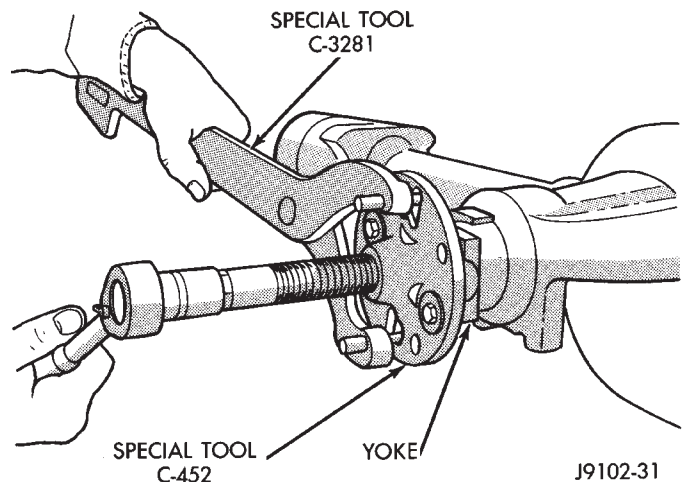

Fig. 11 Pinion Yoke Removal
(1) Raise and support the vehicle.
(2) Remove wheel and tire assemblies.
(3) Remove brake rotors and calipers. Refer to Group 5, Brakes, for proper procedures.
(4) Mark the propeller shaft and pinion yoke for installation reference.
(5) Remove the propeller shaft from the yoke.
(6) Rotate the pinion gear three or four times.
(7) Measure the amount of torque necessary to rotate the pinion gear with a (in. lbs.) dial-type torque wrench. Record the torque reading for installation reference.
(8) Using Holder 6958 to hold the pinion yoke, remove the pinion nut and washer.
(9) Use Remover C-452 and Wrench C-3281 to remove the pinion yoke (Fig. 11).
(10) Use a suitable pry tool or a slide hammer mounted screw, remove the pinion seal.
(11) Remove the front pinion bearing using a pair of suitable pick tools to pull the bearing straight off the pinion gear shaft. It may be necessary to lightly tap the end of the pinion gear with a rawhide or rubber mallet if the bearing becomes bound on the pinion shaft.
(12) Remove the collapsible spacer.
- (1) Raise and support the vehicle.
- (2) Remove wheel and tire assemblies.
- (3) Remove brake rotors and calipers. Refer to Group 5, Brakes, for proper procedures.
- (4) Mark the propeller shaft and pinion yoke for installation reference.
- (5) Remove the propeller shaft from the yoke.
- (6) Rotate the pinion gear three or four times.
- (7) Measure the amount of torque necessary to rotate the pinion gear with a (in. lbs.) dial-type torque wrench. Record the torque reading for installation reference.
- (8) Remove differential assembly from axle housing.
- (9) Using Holder 6958 to hold yoke, remove the pinion nut and washer.
- (10) Using Remover C-452 and Wrench C-3281, remove the pinion yoke from pinion shaft (Fig. 11).